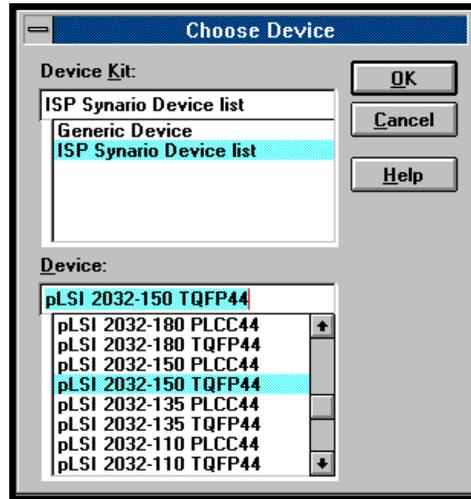

Figure 1-4. Choose Device Window
5. Double-click on Virtual Device. You will see the Choose Device pop-up window. Select ISP Synario Device list in the Device Kit field. A device list appears (Figure 1-4).